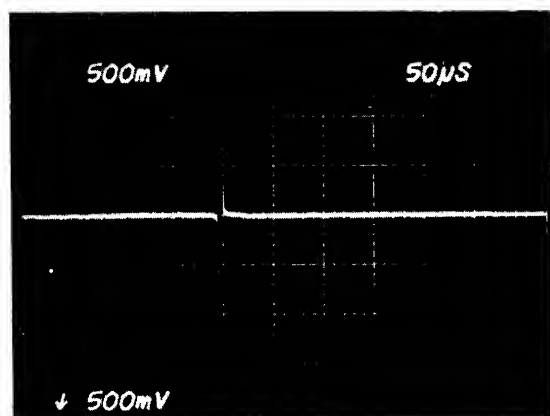

FIGURE 8 INDEX TIMING
- f. Observe the timing between the start of the sweep and the first data pulse. This should be $200 \pm 100 \mu\text{sec}$. If the timing is not within tolerance, continue on with the adjustment. Reference Figure 8.